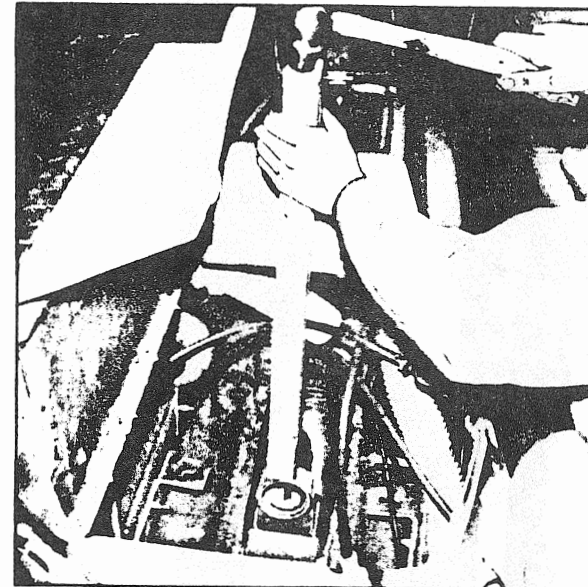

FIGURE 32
- To release the suction piece from the sealant and to remove it from the hull, place a 2" x 4" piece of hard wood on the front section of suction piece and knock the suction piece down (fig. 32).